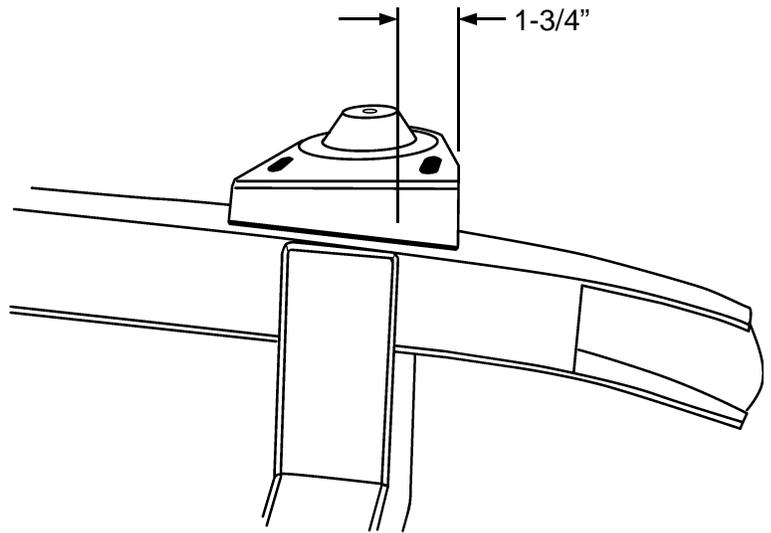

Figure 6
7. Next are the spring towers. They sit on top of the frame rails, and are located as shown in Figure 6, ($1\text{-}3/4"$, forward of the crossmember measuring from the front of the crossmember to the front of the spring tower). Clamp in place, double check your dimensions, then weld all around, including the gusset flanges on the sides of the rails. For added strength, you can also weld the inside of the gusset flanges. (Hint: Before you install the spring towers, you can weld up and grind flush the old fender bracket holes and the one splash apron hole which are covered by the spring towers, as they will no longer be used.)